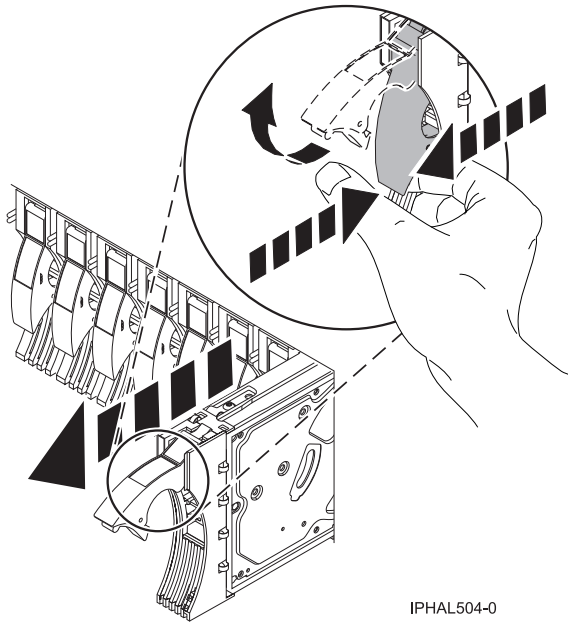

Figure 46. Removing a disk drive from a model
13. Unlock the disk drive handle by squeezing it and pulling it out toward you as shown in Figure 46 on page 66.